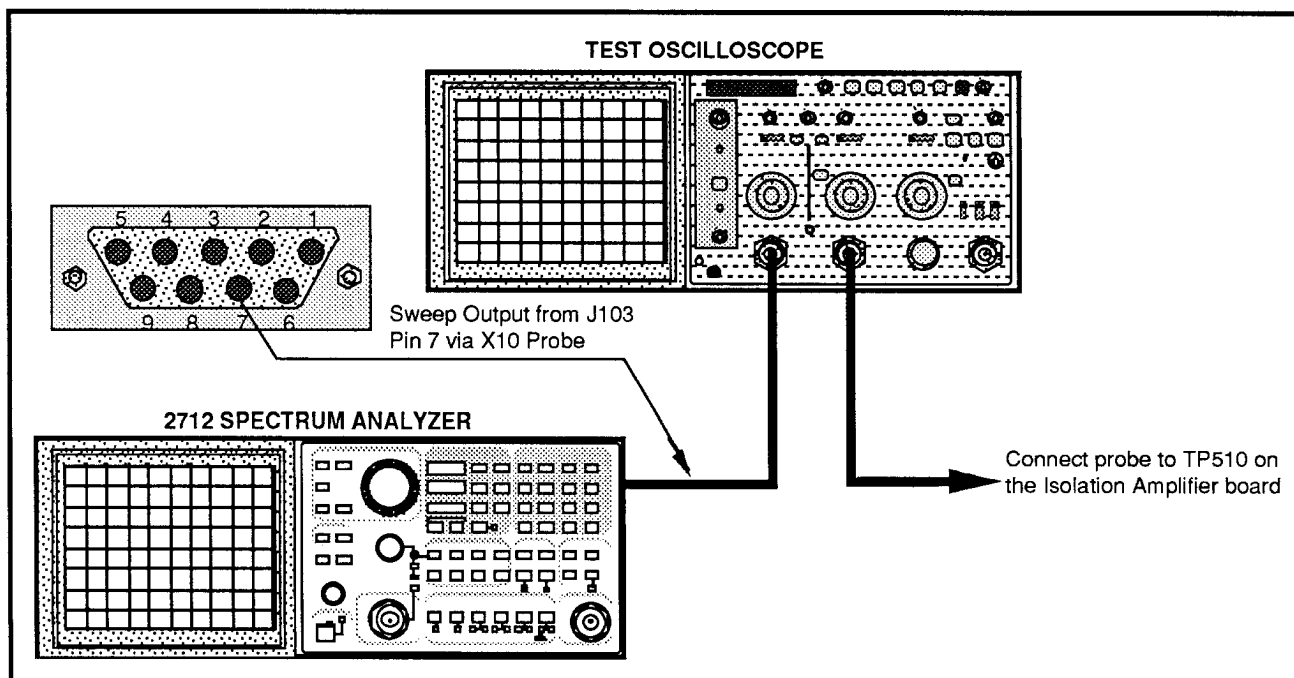

Figure 4-13. Test equipment setup for adjusting the Isolation Amplifier output level.
- (a) Connect the test equipment as shown in Figure 4-13.